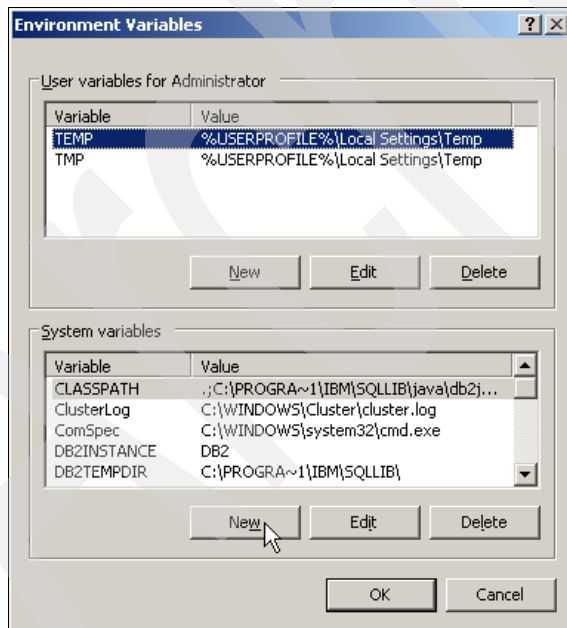

Figure 3-4 Windows Environment Variables
2. Select **New** from the Environment Variables panel as in Figure 3-4.